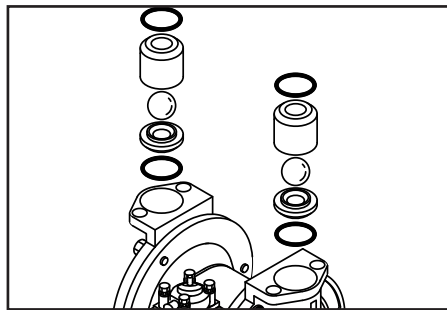

Figure 12
- Remove the ball, valve seat and O-ring (See Figure 12).